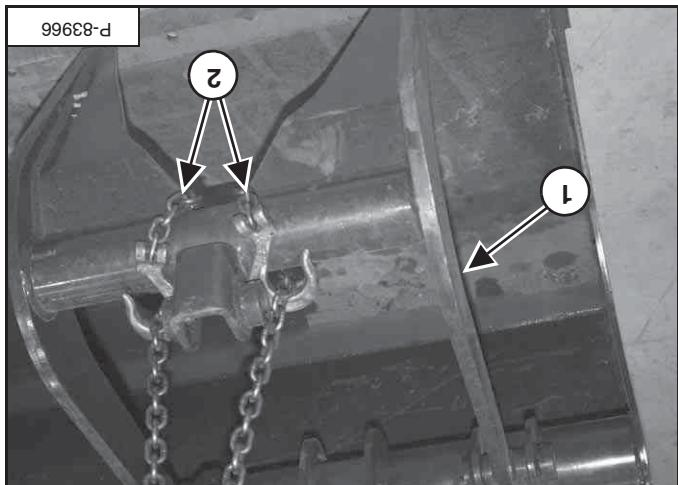

Figure 100
Support the grapple fork (item 1) by fastening chains (item 2) [Figure 100].